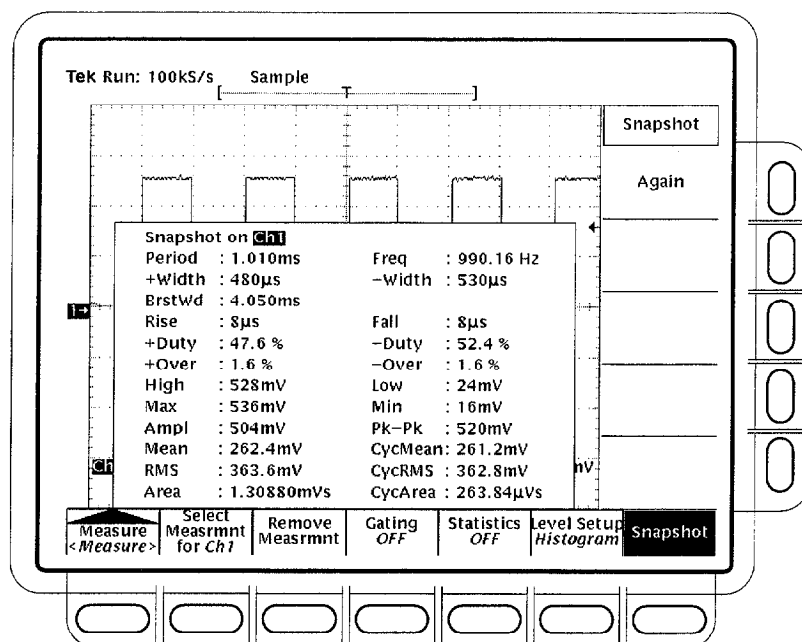

Figure 2-17: Snapshot of Channel 1
1. Press **Snapshot** (main) to pop up a snapshot of all available single waveform measurements. (See Figure 2-17.)